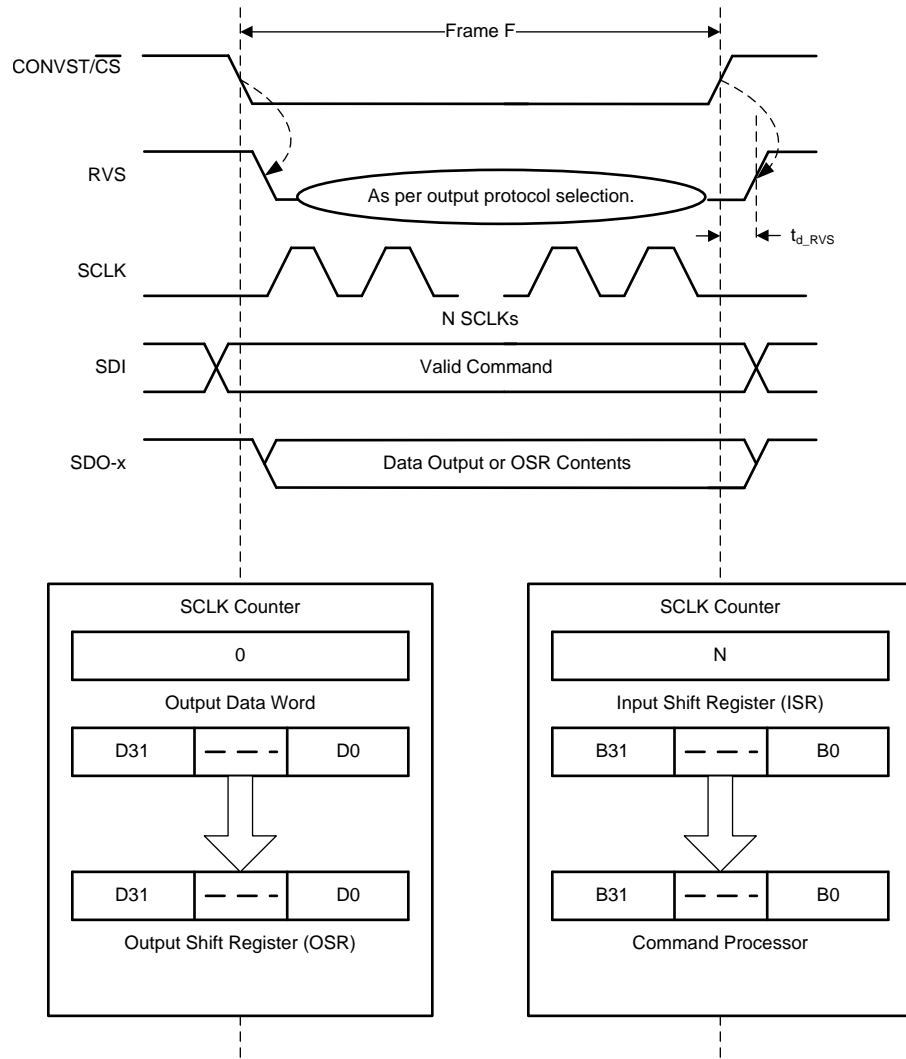

Figure 75. Data Transfer Frame
A data transfer frame between the device and the host controller begins at the falling edge of the CONVST/ \overline{CS} pin and ends when the device starts conversion at the subsequent rising edge. The host controller can initiate a data transfer frame by bringing the CONVST/ \overline{CS} signal low (as shown in Figure 75) after the end of the CONV phase, as described in the CONV State section.
- The device takes control of the data bus. As illustrated in Figure 75, the contents of the output data word are loaded into the 32-bit output shift register (OSR).
- As illustrated in Figure 75, the contents of the input shift register are transferred to the command processor for decoding and further action.